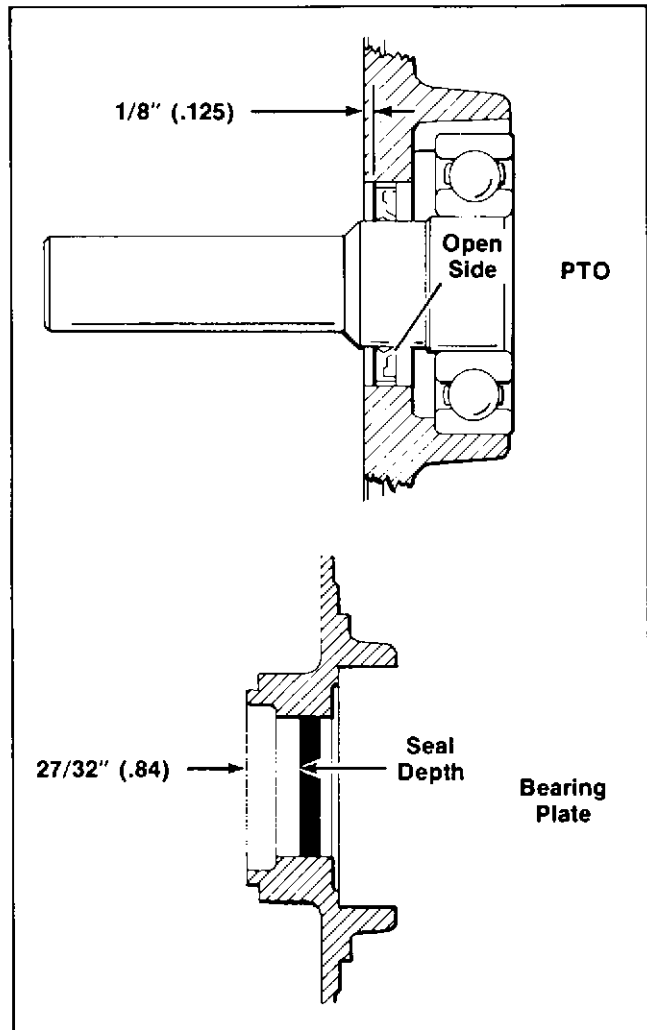

Figure 8-12. Drive Oil Seal to Specified Depths
2. After oil seals are started on shaft, place block on its side. Slide the seal driver over the sleeve and drive the seal squarely into bearing plate and cylinder block. Drive seals to the specified depth as shown in Figure 8-12.